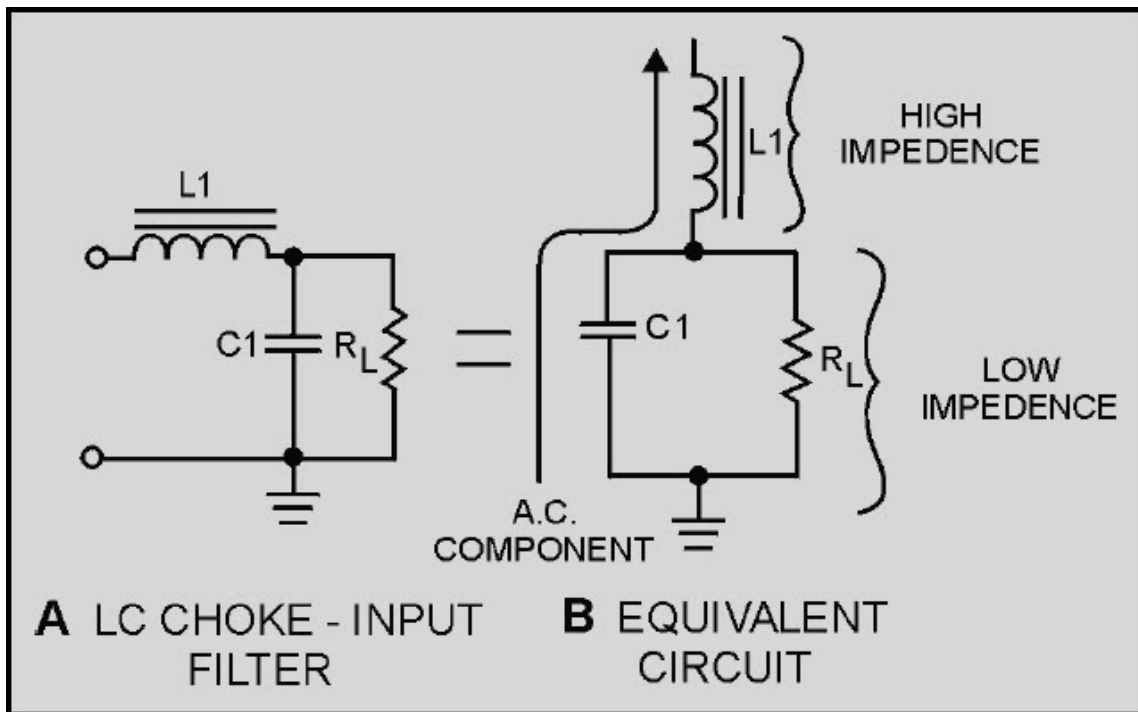

Figure 4-21 LC choke-input filter
The inductor (also referred to as the filter choke or coil) serves to maintain the current flow to the filter output (R_L) at a nearly constant level during the charge and discharge periods of the filter capacitor. The inductor (L_1) and the capacitor (C_1) form a voltage divider for the ac component (ripple) of the applied input voltage. This is shown in views A and B of figure 4-21. As far as the ripple component is concerned, the inductor offers a high impedance (Z) and the capacitor offers a low impedance (view B). As a result, the ripple component (E_r) appearing across the load resistance is greatly attenuated (reduced). The inductance of the filter choke opposes changes in the value of the current flowing through it; therefore, the average value of the voltage produced across the capacitor contains a much smaller value of ripple component (E_r) than the value of ripple produced across the choke.